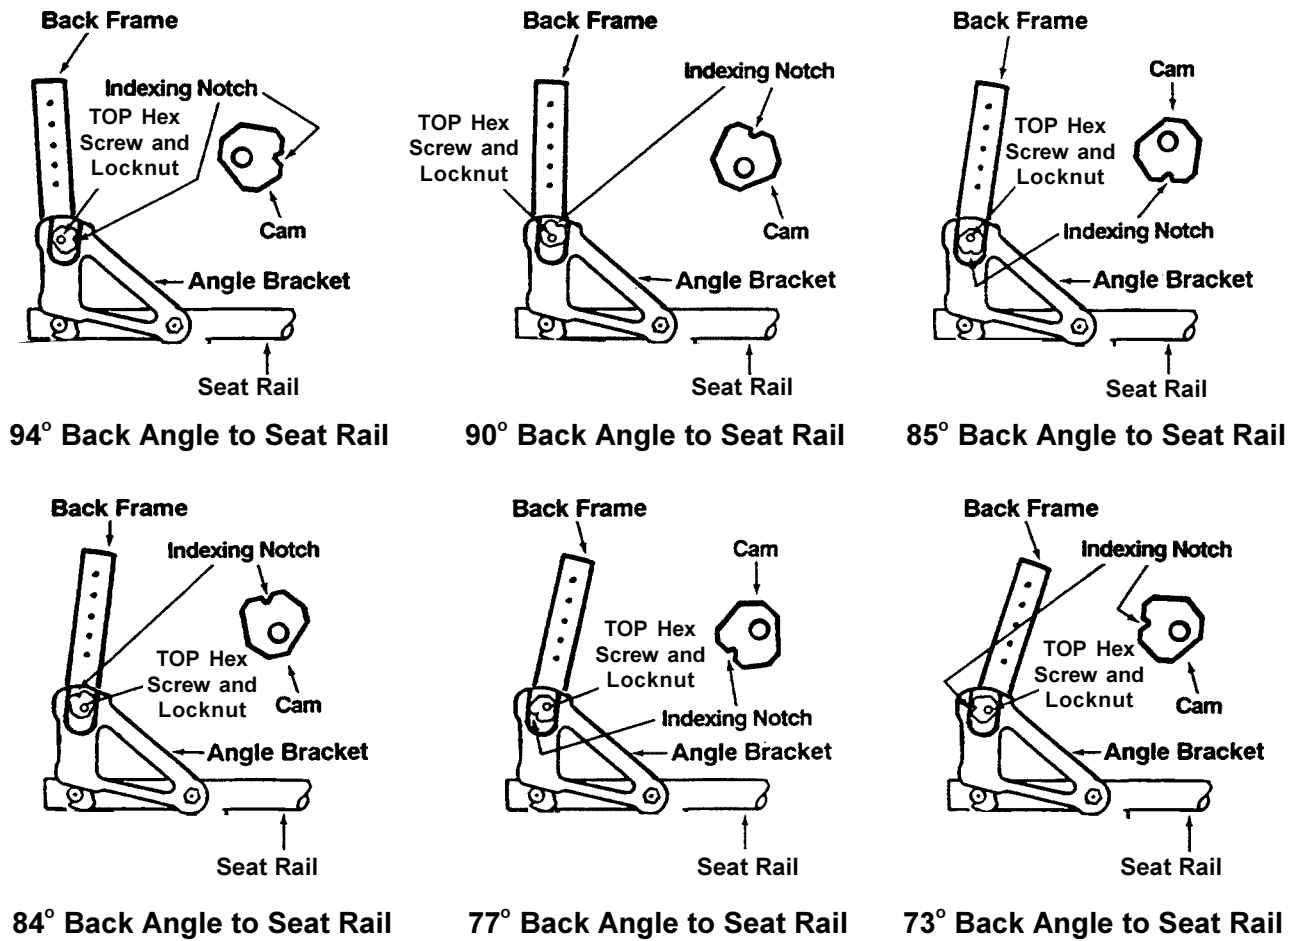

FIGURE 4 - ADJUSTING BACK ANGLE - FOLDING BACK WHEELCHAIRS ONLY
ADJUSTING BACK ANGLE - FOLDING BACK WHEELCHAIRS ONLY (FIGURE 4)
*NOTE: As shown in **FIGURE 4**, the adjustment cam can be rotated to several different positions thus changing the overall back angle relative to the seat rail.*